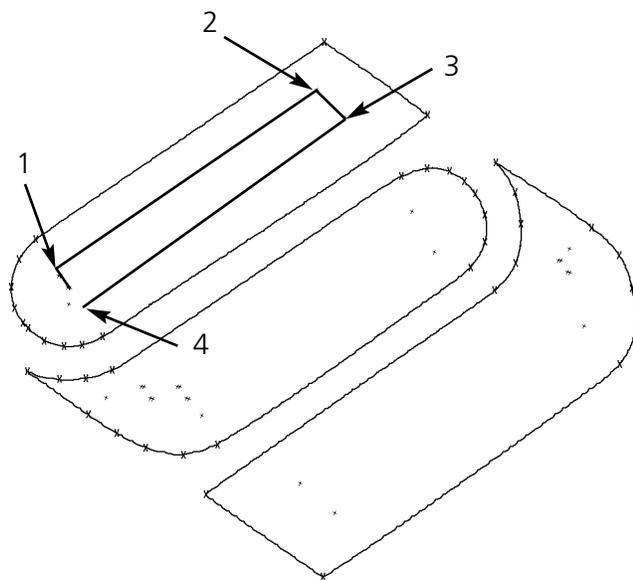

Figure 5-58
4. Locate the file named sfill.pcx and load it into the EDS III Object Edit window. When loaded properly the image on the display will look similar to the illustration in Figure 5-58.
4. Click in the area in the shape identified as location 1 in Figure 5-58 and enter a Mk1.
6. Generate the lock stitches, then put down a running stitch underlay by entering Mk1s at locations 2 through 4 as shown in Figure 5-58.